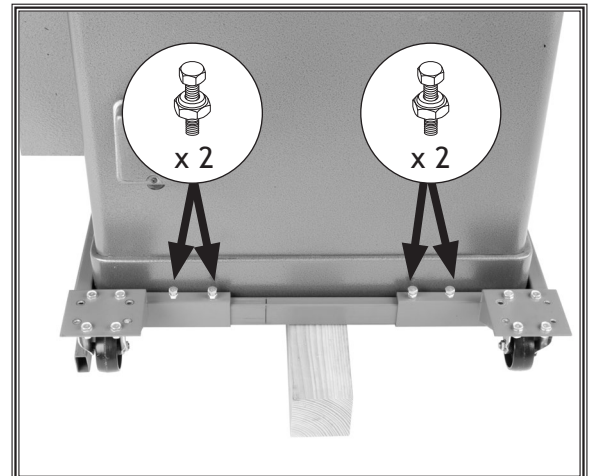

Figure 25. Rear rail fixed caster assembly secured.
13. Secure each end of the rails to the corner brackets with (2) M8-1.25 x 25 hex bolts and 8mm lock nuts, as shown in **Figure 25**.